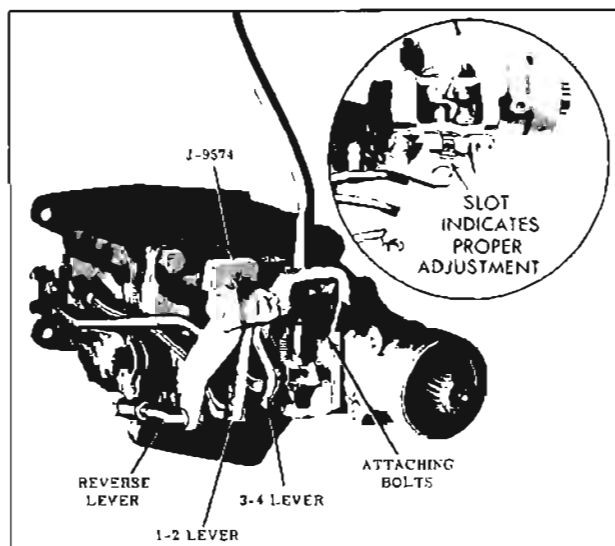

Fig. 11-209 Shift Linkage Adjustment
4. Install Tool J-9574, Linkage Gauge Block, in notch of the retainer bracket as shown in Fig. 11-209.